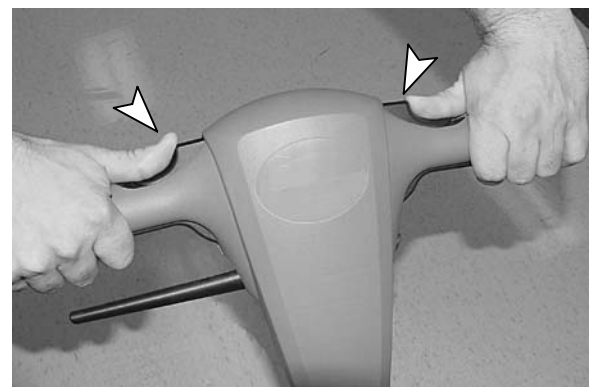

FIG. 7
4. To begin burnishing, depress the safety lock buttons, located on top of the handle, then pull the On/Off levers. Release the safety lock buttons once the machine starts (Figure 7).